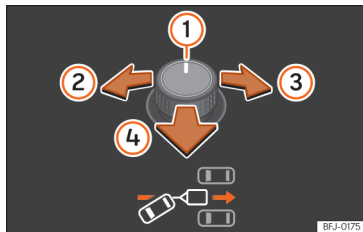
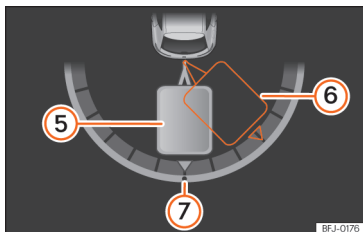

Fig. 147 Outside rearview mirror rotary control: adjust the trailer angle.
Fig. 148 Instrument cluster display: engage reverse.
Key to the >>> Fig. 147, >>> Fig. 148:
- Tilt the rotary control until the desired direction is reached >>> Fig. 147. A representation of the tow vehicle and trailer set is shown on the instrument cluster screen for guidance purposes >>> Fig. 148.